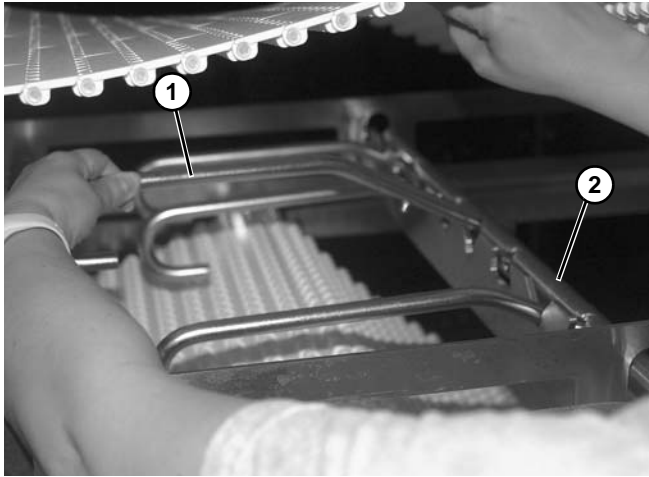

Figure 32
- Locate belt lifter arms (**Figure 32, item 1**). Note orientation and location of belt lifter arms on lifter bar and conveyor frame (for reassembly).
- Remove each belt lifter arm (**Figure 32, item 1**) from lifter bar (**Figure 32, item 2**).